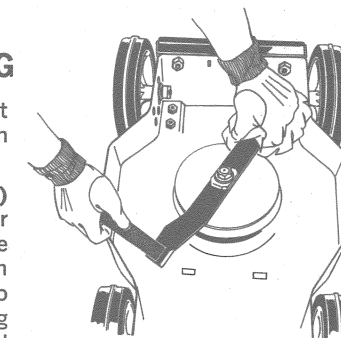

FIGURE 12
- (1) UNPLUG MOWER! (2) Wear gloves and turn mower over to expose blade (Figure 12).
- (3) Grasp blade as shown in Figure 12 using a rag to protect hand from cutting edge.
- (4) Sharpen each end of blade with a file, trying to remove an equal amount of metal from each end to maintain blade balance.